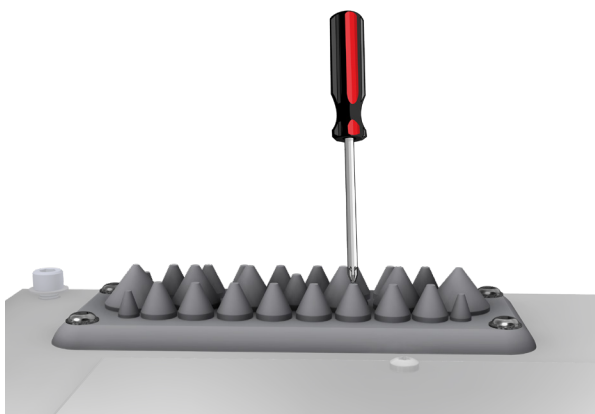

Figure 4.2 Cable glands preparation
1. Make a small hole into the membrane using a screwdriver or cut the top of the cone using side cutter (*Figure 4.2*).